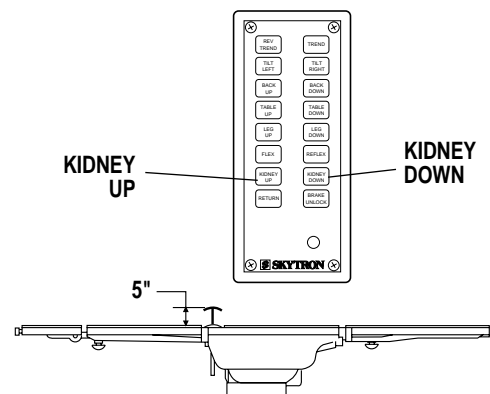

Figure 3-11. Kidney Lift Positioning
i. Kidney Lift. To raise the built-in kidney lift, press the KIDNEY UP button (figure 3-11). Up to 5 inches of lift can be achieved. Press the KIDNEY DOWN button to lower the kidney lift.